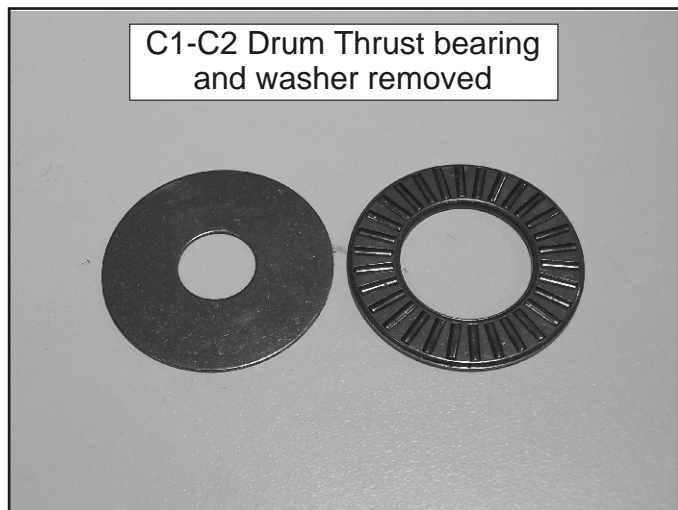

Figure 249
- 177. Refer to Figure 249 for a close up view of the C1/C2 thrust bearing and race.